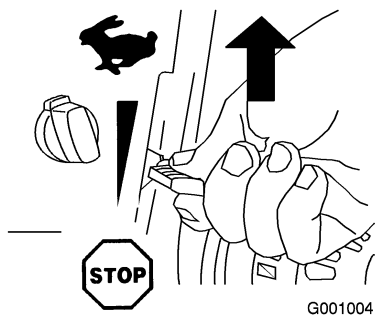

Figure 20
2. Move the throttle to the Fast position (Figure 20).